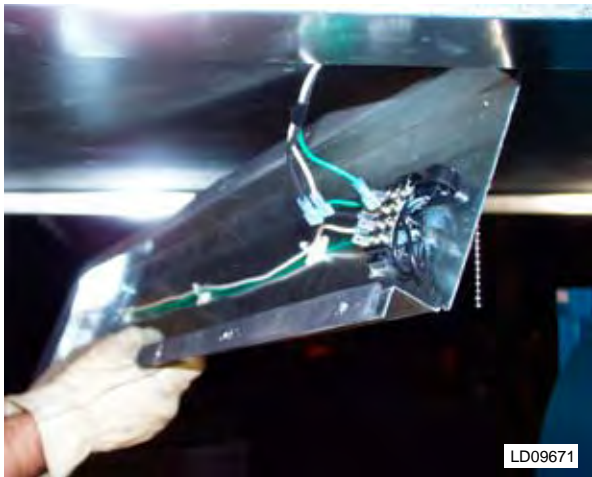

FIG. 5-92 – REMOVE COMPONENTS PRIOR TO REMOVING PANELS.
1. Make sure any components; bulkheads or other obstructions are disconnected from panel inside and out (*see Fig. 5-92*).